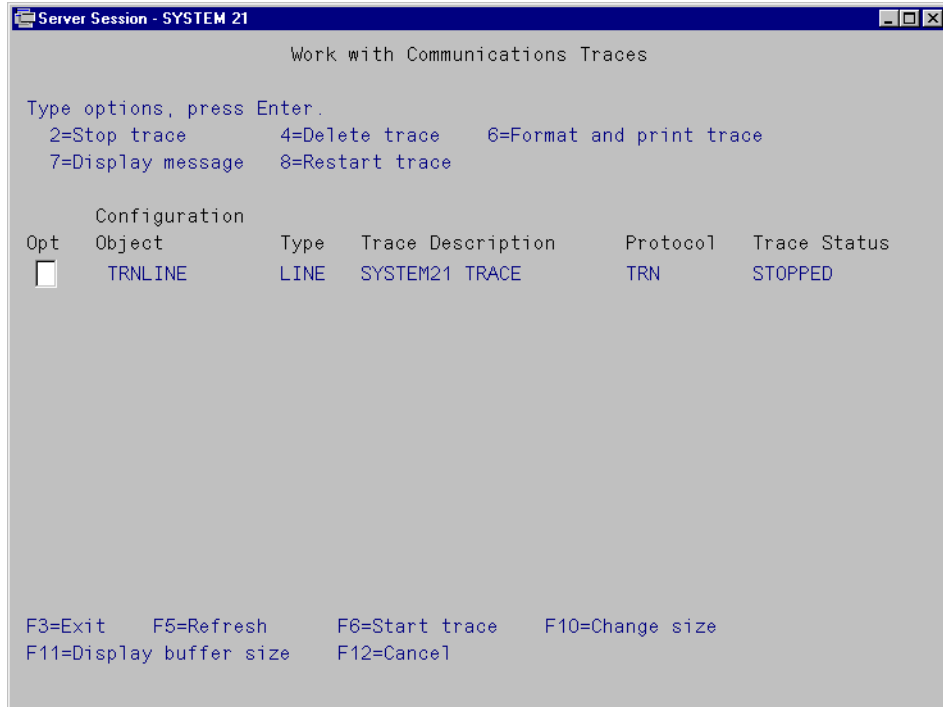

Figure 195. Work with Communications Traces
3. Type option 3 (Work with Communications Trace), and press Enter. You see the Work with Communications Traces screen, which is shown in Figure 195 on page 332.